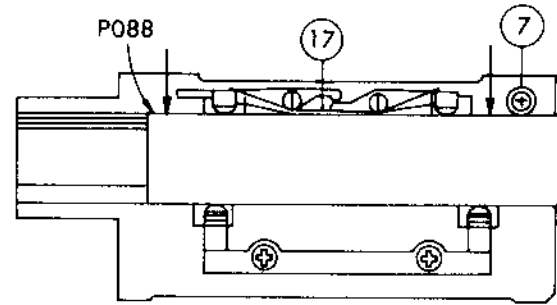

Fig. 28
3. Set the fixing guide installing gauge (P088) to 14 as shown in Fig. 28, and install 7 by slightly pushing it in arrow mark direction, so that the (7) gets tight fit with the gauge.